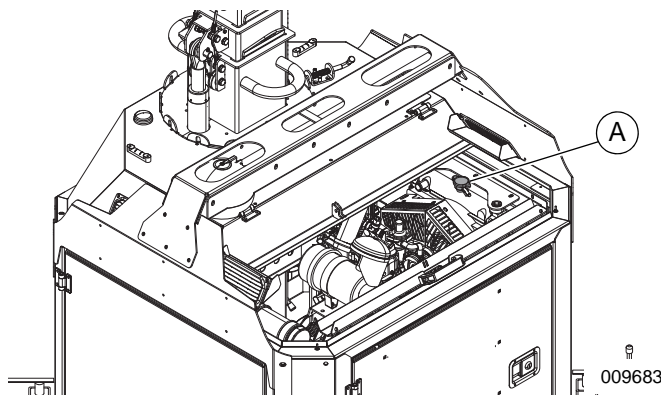

Figure 4-4. Radiator Fill
2. See **Figure 4-4**. Remove radiator fill cap (A).